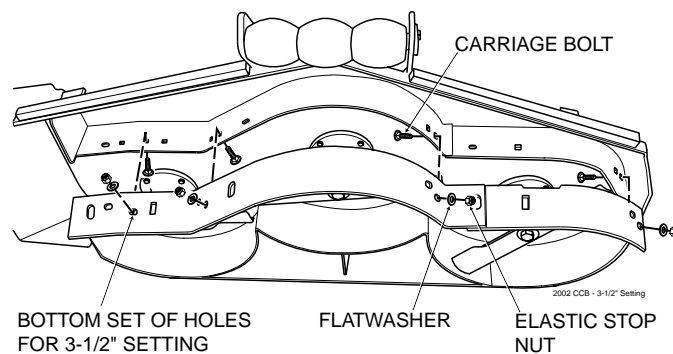

Figure 6-10. 3-1/2" Custom Cut Baffle Position
- B. 3-1/2" Position (factory setting) - baffle is installed using the bottom set of holes on the Custom Cut Baffle. (See Figure 6.10). For general purpose cutting, place the Custom Cut Baffle in the 3-1/2" position. This gives the best mix of cutting performance in all types of grass.
4. Reinstall the mounting hardware as shown. (See Figures 6.10 though 6.11). Torque hardware to 39ft.lbs.